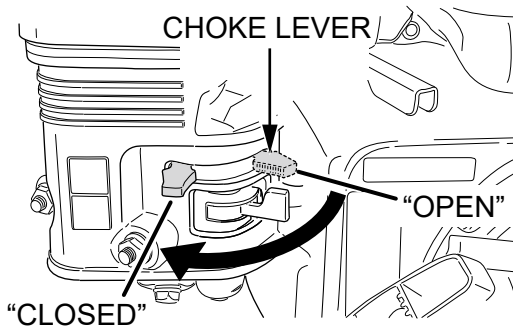

Figure 17. Choke Lever (CLOSED)
3. To start a cold engine, move the choke lever to the "CLOSED" position. To restart a warm engine, leave the choke lever in the "OPEN" position (Figure 17).